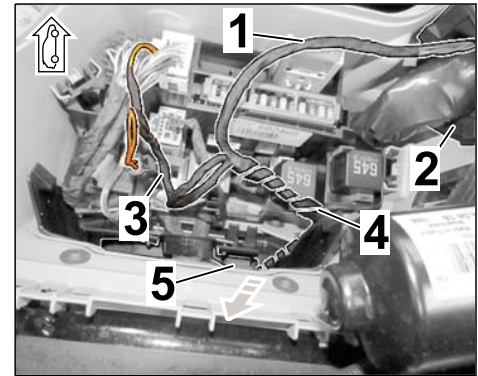

Figure 24
2.4.5 Carefully guide wire harness for engine noise control unit/pulse sender through the new opening (sleeve) into the fuse box (E-box) (⇒ Figure 24).
- 3 (2) – Branch for CAN lines
- 4 (3) – Branch for power supply/ground